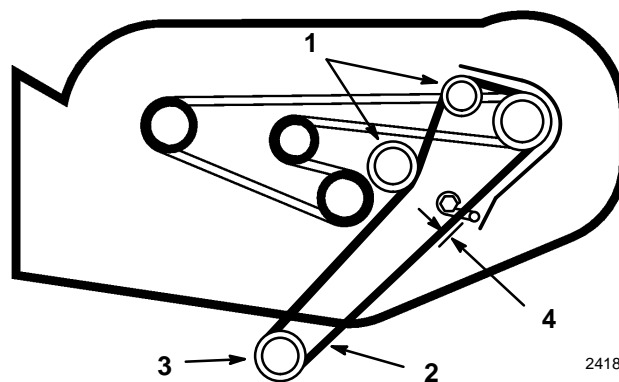

Figure 9
9. Pull on drive belt and rotate onto engine pulley to install (Fig. 9).
10. Adjust belt guide so distance between belt and guide is 1/8" (4 mm) (Fig. 9).